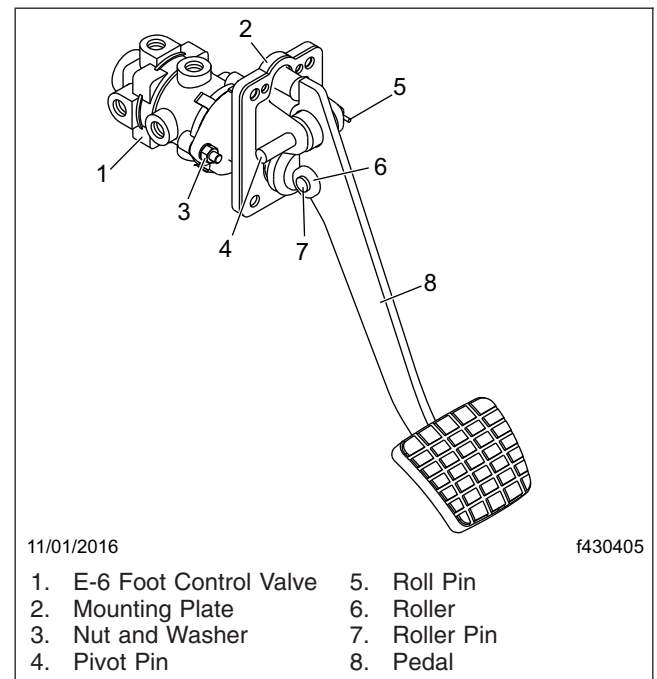

Fig. 9, Brake Pedal and Valve Assembly
2. Remove the roll pin from the brake pedal pivot pin. See **Fig. 9**.